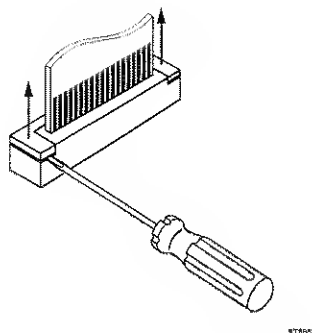

Figure 6-6. Flex Cable Connectors
2. Disconnect the blue keypad foil (item 5) flat cable, and the white LCD (item 7) flex cable. Unlock each cable by lifting the connector latch at the left and right edge using a small screw-driver, see Figure 6-6. The latch remains attached to the connector body.